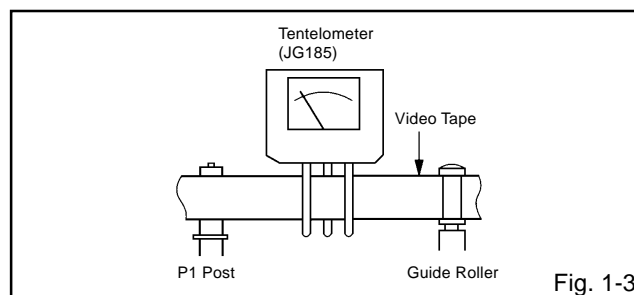

Fig. 1-3
- Install the tentelometer (**JG185**) as shown in **Fig. 1-3**. Confirm that the meter indicates  $20 \pm 2$ gf in the beginning of playback.